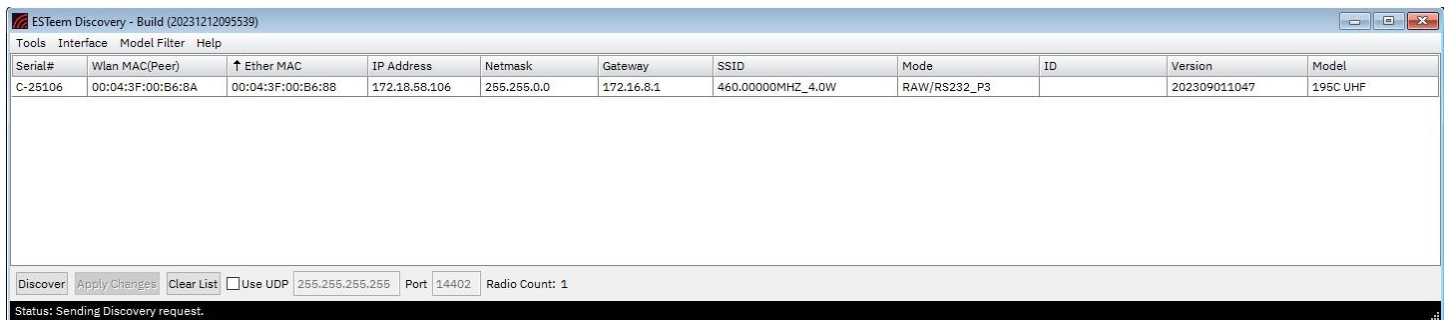

Figure 4: Discovery Found Radio
3. After pressing the Discover button, the ESTeem 195M/H/C will be displayed (Figure 4). If the ESTeem is not on the same IP subnet as the computer, double click on the IP, Netmask, or Gateway and make the necessary changes and press the Enter key to secure the changes. Press the Apply Changes button when complete.